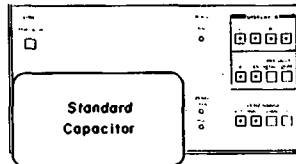

Figure 5-13. A1 Range Resistor Phase Adjustment.
- c. Connect 10pF Standard Capacitor (16382A) to 4274A as shown in Figure 5-13 and adjust A1C11 (100kΩ) until display counts are within  $.0000\mu\text{s} \pm 4\%$  counts for Display A.